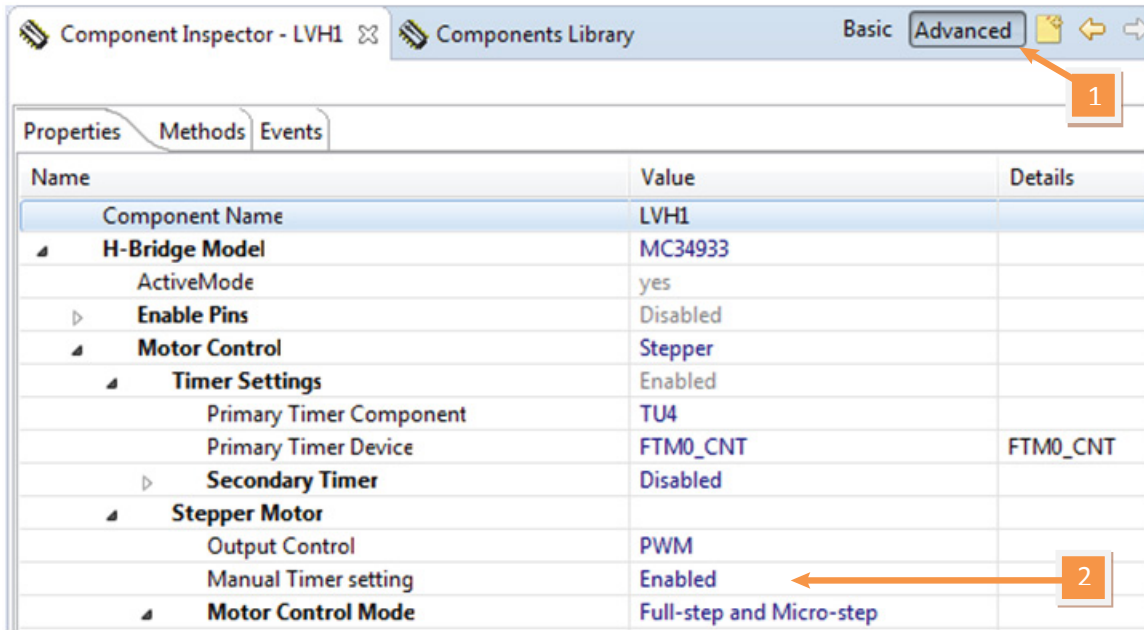

Figure 22. Enabling the Manual Frequency setting
3. In the Properties tab, find the Motor Control -> Stepper Motor -> Manual timer setting property and set the value to Enabled. If you do not see this property, make sure that component visibility is set to Advanced (see Figure 22).